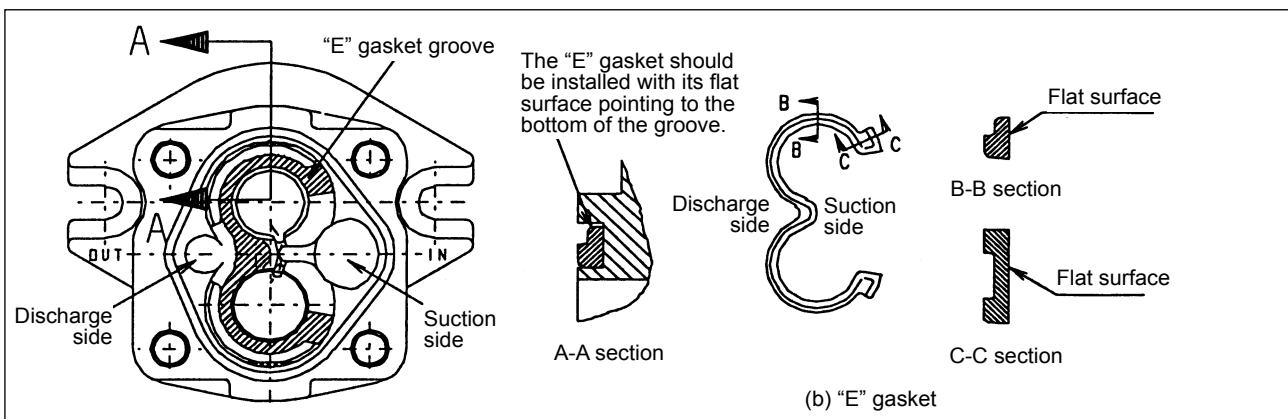

Fig. 3.388
- ③ Install a new “E” gasket (2) in the groove in the front cover (1), referring to Fig. 3.388.
- ⑩ Install the "E" gasket (1) on the adapter (2), as shown in Fig. 3.388.